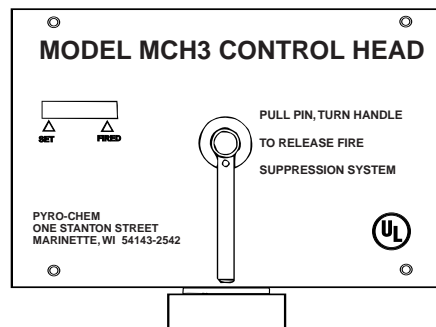

Figure 2-5. Mechanical Control Head.
The Model MCH3 mechanical control head is a fully mechanical control head which can be connected to the PCI-15/25s/35/50s/70 cylinder valve. This control head will support a fusible link detection system, a remote mechanical pull station (Model RPS-M), and a mechanical or electric gas shut-off valve. A micro switch (Model MS-SPDT, MS-DPDT, MS-3PDT, or MS-4PDT) can be ordered separately and field installed. It is equipped with a local manual control handle that allows for mechanical system actuation. Operation of the local manual control requires removing the pull pin and rotating the handle clockwise. The Model MCH3 control head can actuate a maximum of five (5) cylinders. See **Figure 2-5**.